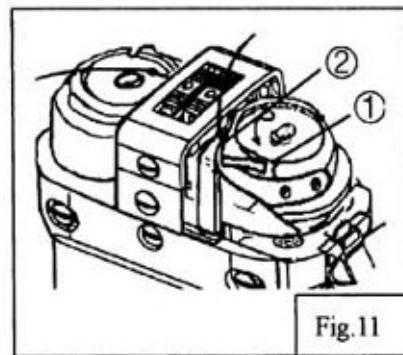
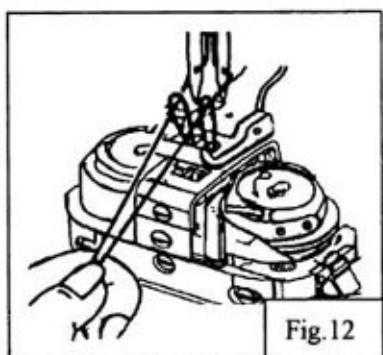

Fig.11
Fig.12
7. Threading of bobbin thread (Fig.11, Fig.12):
- 1) Flap down the latch lever, from the slit 1 of the hook, pass the thread through underneath of the hook body 2, pull the thread outside (Fig.11);
- 2) While holding the needle thread by left hand, rotate the hand wheel one turn by right hand. By pulling up the needle thread, the bobbin thread will be listed. Close the slide plate (Fig.12)